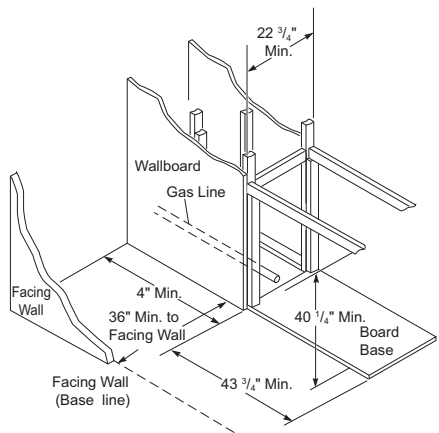

Figure 8 - Framing for Built-In Firebox Installation
1. Frame in rough opening. The firebox framing should be constructed of 2 x 4 lumber or heavier. Construct framing using dimensions shown in Figure 8 and 9, page 11. It is recommended that the framing be constructed first and the unit be placed in position. After sliding the unit into place, the flanges may be nailed to the framing before applying the wallboard to the exterior framing.